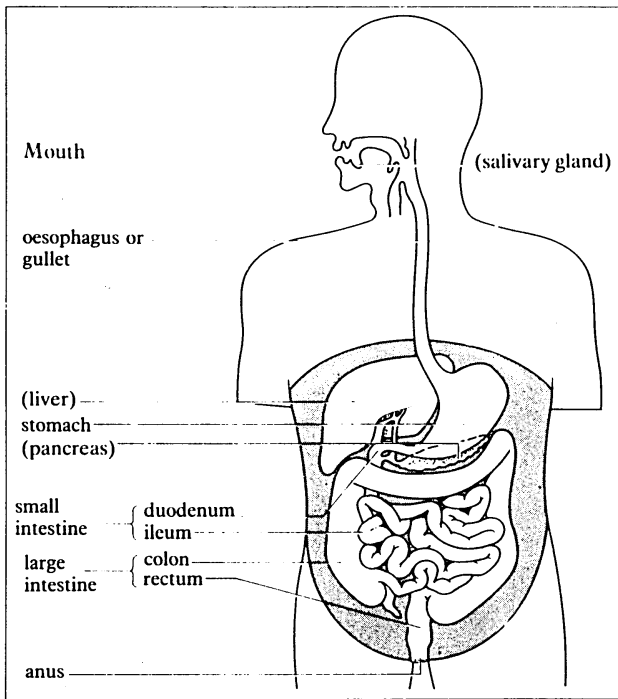

Figure 3 The human digestive system. Fibre passes through unchanged, from mouth to anus.
- *Fibre* Dietary fibre is the part of food that cannot be digested. It passes practically unchanged through the gut from the mouth to the anus (Figure 3). Many doctors now believe fibre is an important part of the diet. It keeps the contents of the gut moving, preventing constipation. It may also help prevent more serious diseases like cancer of the large intestine.